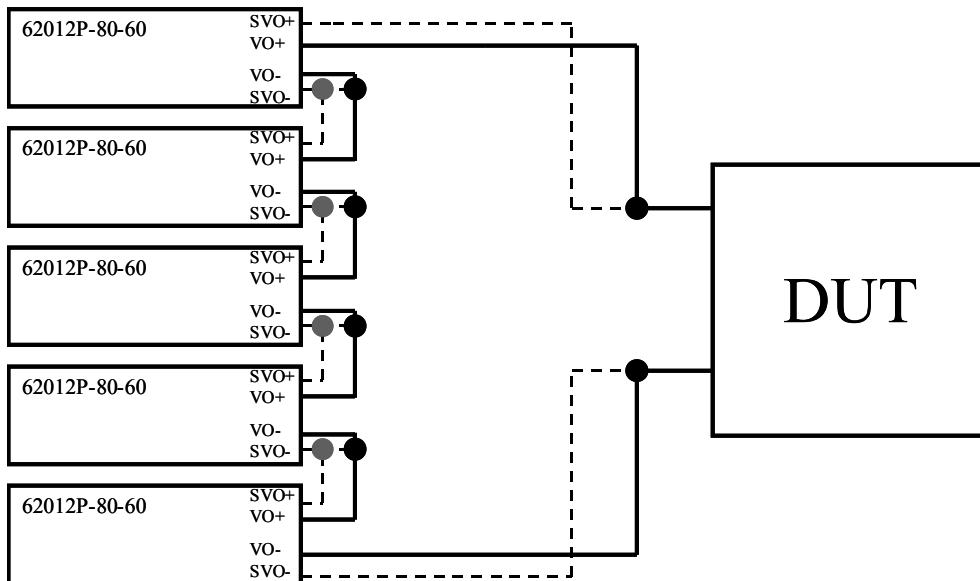

Figure 3-28
1. Figure 3-28 shows the series connections.